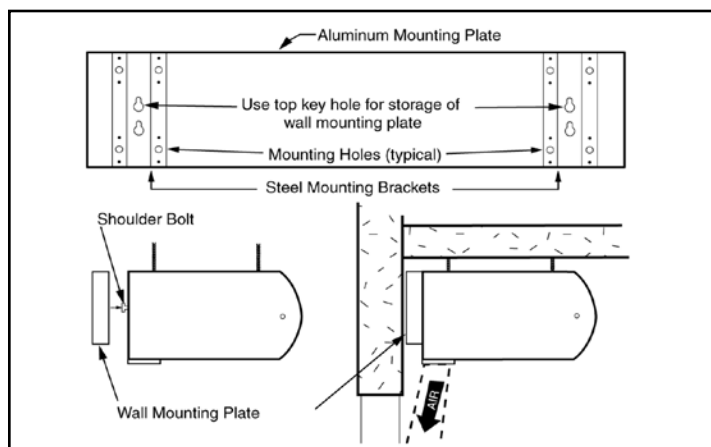

FIGURE 5 - Wall Mounting Plate Storage
- A. When the air door is top mounted, the wall mounting plate is designed to store on the back of the air door for future use. **See Figure 5.**